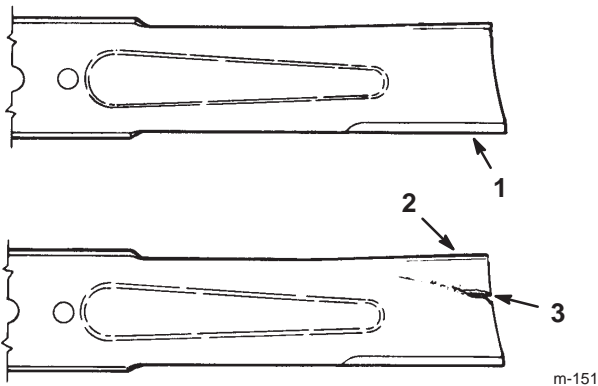

Figure 27
1. Inspect the cutting edges (Fig. 27). If the edges are not sharp or have nicks, remove the blade and sharpen them; refer to Sharpening the Blade on page 28.
2. Inspect the blade, especially the curved area (Fig. 27). If you notice any damage, wear, or a slot forming in this area (Fig. 27), immediately install a new blade.